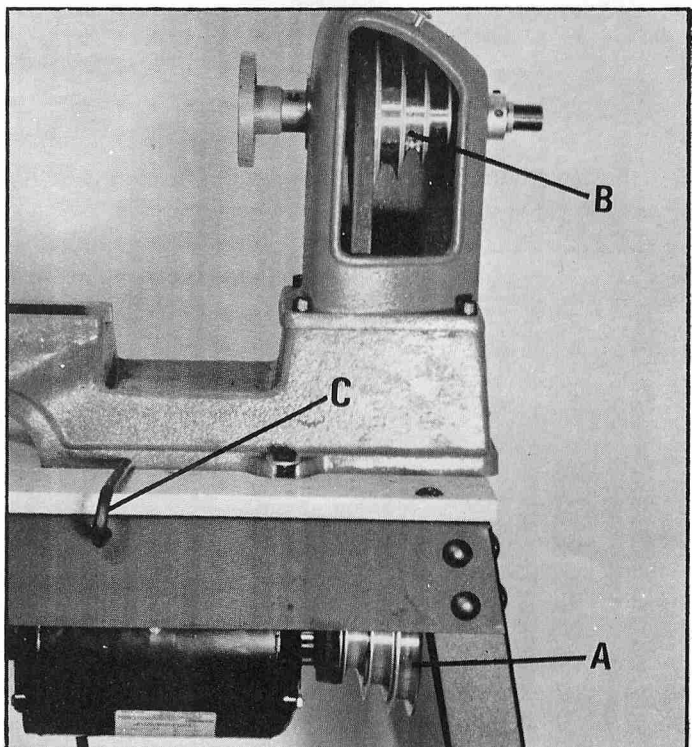

Fig. 15
1. Lift up on motor and hold in place, as shown in Fig. 15, using support tool supplied.
2. Assemble belt to motor pulley (A), as shown in Fig. 15.
3. Make sure motor pulley (A) Fig. 15, is aligned to spindle pulley (B). If necessary, loosen set screw and slide motor pulley (A) in or out on motor shaft. **NOTE:** If additional adjustment is required the motor can be moved on the hinge bracket.